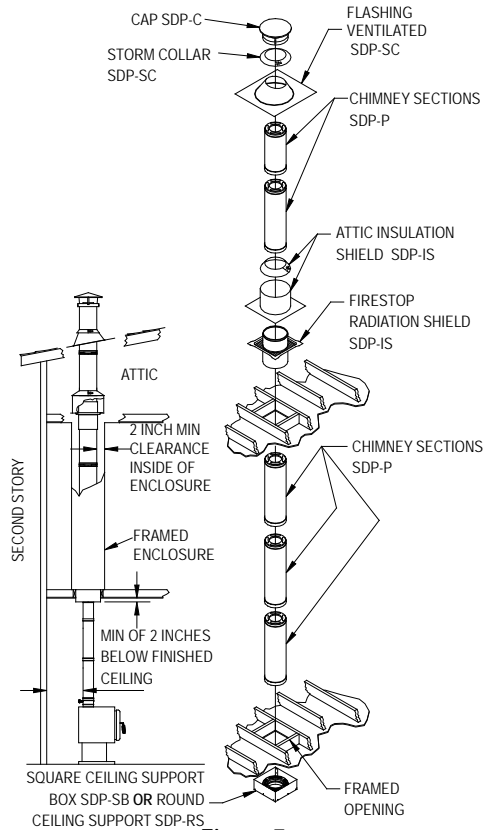

Figure 7
4. **Frame Openings:** Frame openings in each ceiling or floor above the Support Box. (Figure 7). These openings are to hold the Firestop Radiation Shields and Attic Insulation Shields. Locate each opening by dropping a plumb bob to the four corners of the opening below. Maintain the minimum clearances and
through a Firestop Radiation Shield, a ceiling, and into an attic. The other is a multi-story building where the chimney passes through a Firestop Radiation Shield, through a ceiling, into another story, and then into an attic. Each of these require a different configuration of the Firestop Radiation Shield. *Figure 7*
- c. Slip the Insulation Shield over the Chimney and Firestop Radiation Shield until the base sits squarely on the framed opening. (**Figure 7**).